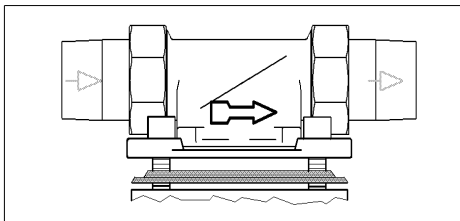

Fig. 1: Rotary flange fitting
- Direction of flow (see fig. 1)